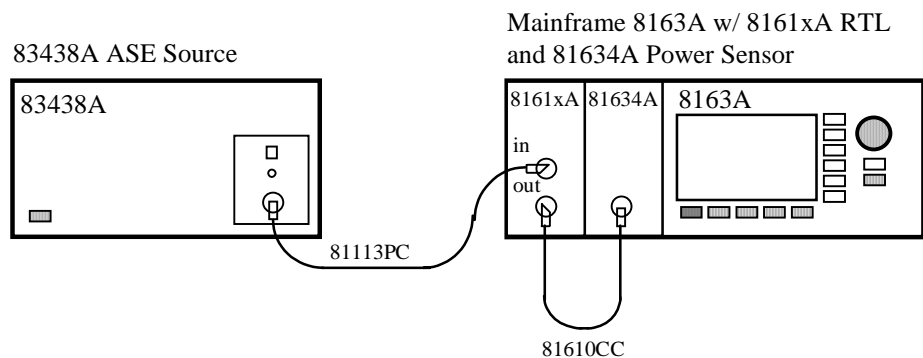

Figure 37 Relative Uncertainty of Return Loss - Calibration Setup
- 2 Setup the equipment as shown in Figure 37.